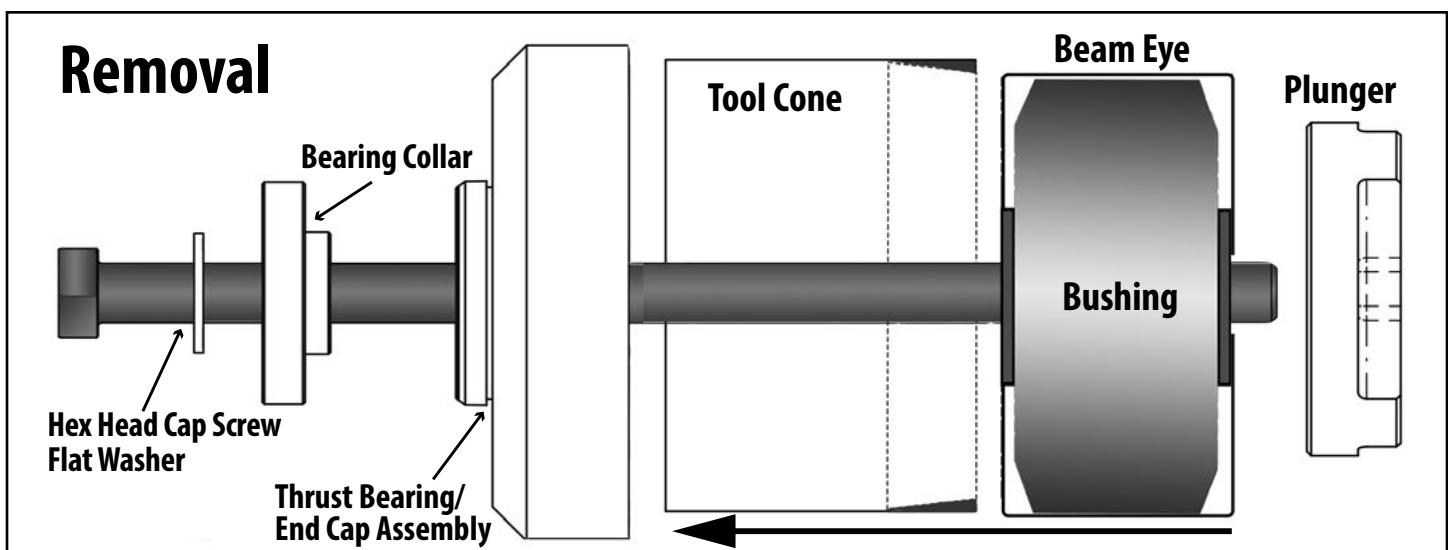

Figure 7.
Thread the flat washer, the bearing collar and the endcap onto the HHCS until the bearing collar and endcap rest against the head of the HHCS. Place tool cone onto endcap (Figure 7).
1. Push the hex-head cap screw through the bushing inner sleeve until the tool cone is against the beam eye. Thread the plunger onto the HHCS until the tool cone is held firmly against the beam (Figure 7).